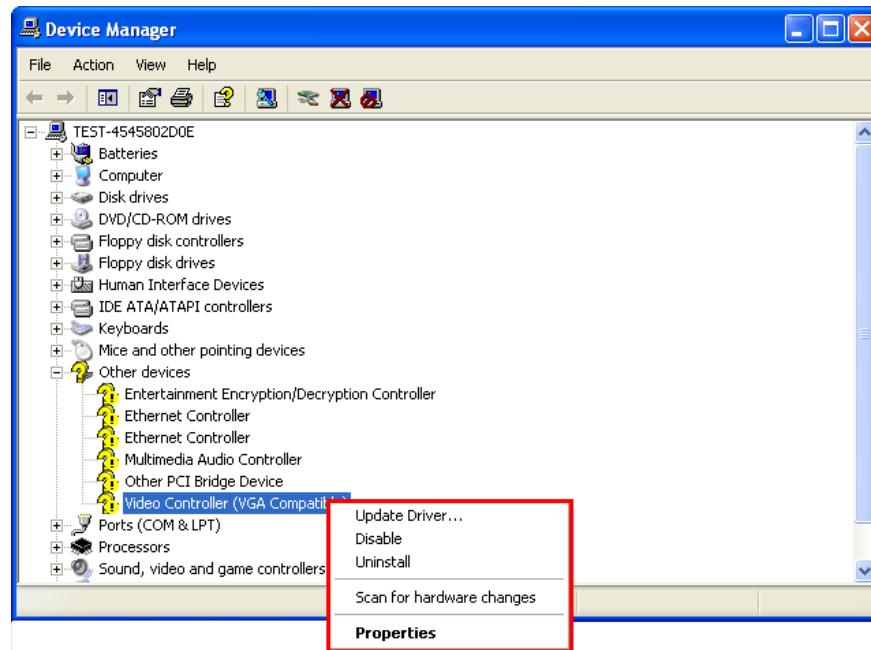

Figure 7-8: Update Driver Selection
Step 14: The small window in **Figure 7-8** appears.
Step 15: Select the **UPDATE DRIVER** option in the small window shown in **Figure 7-8**.